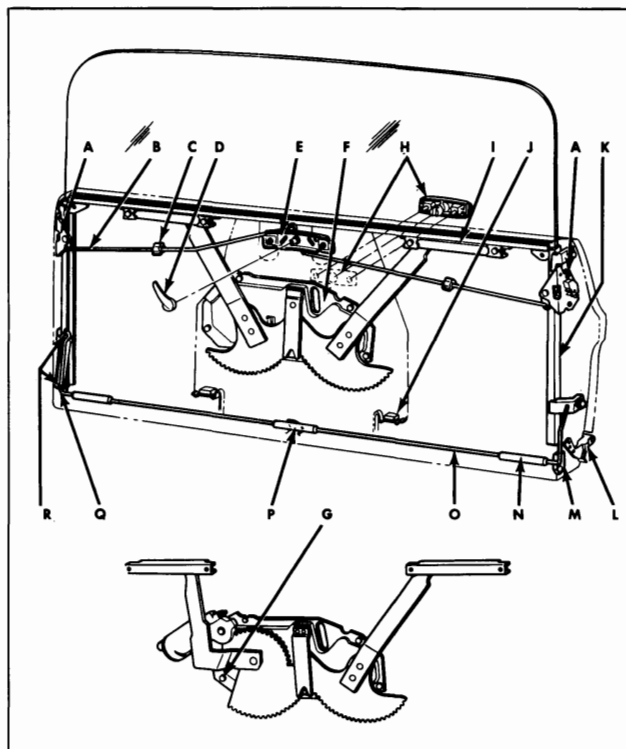
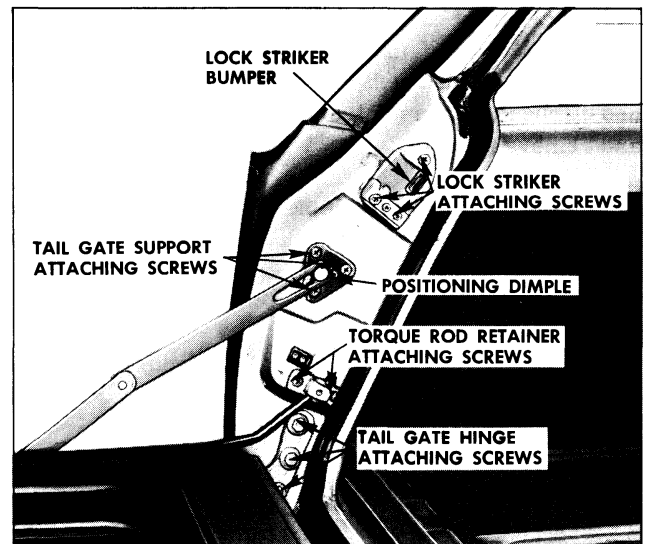
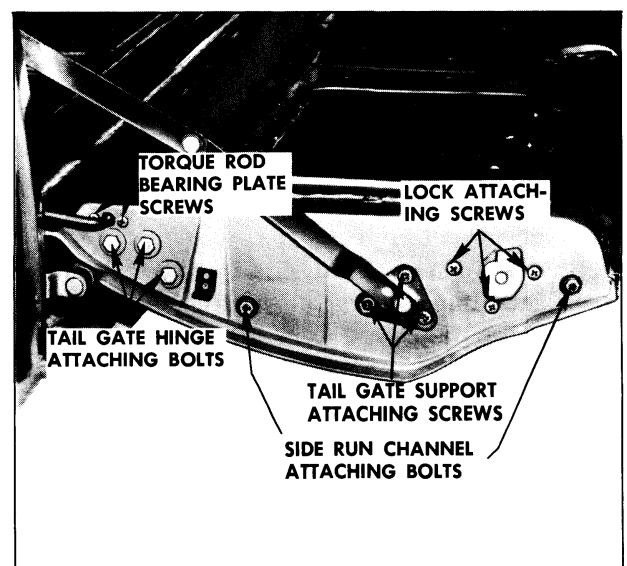

Fig. 14-15 Tail Gate Hardware
Fig. 14-17 Tail Gate Attaching Parts
Fig. 14-18 Tail Gate Attaching Parts
Figure 14-15 is a phantom view that identifies and shows the relationship of major components of the tail gate.
1. Open tail gate. With gate in approximately a vertical position to relieve tension from torque rod, remove torque rod retainer attaching screws on rear body lock pillar (Fig. 14-17).
2. With aid of a helper, remove tail gate support attaching screws (Fig. 14-18) and fold supports against rear body pillar.
3. Remove tail gate hinge attaching bolts at body pillar (Fig. 14-17) and remove tail gate from body.
To adjust the tail gate up or down or in or out in the body opening, loosen hinge attaching bolts at tail gate (Fig. 14-18); adjust tail gate as required and tighten hinge attaching bolts.
3. Remove hinge attaching bolts from tail gate (Fig. 14-18) and from body pillar (Fig. 14-17) and remove hinge from tail gate.
2. With tail gate in approximately a vertical position to relieve tension from torque rod, remove torque rod retainer attaching screws on rear body left lock pillar (Fig. 14-17).
3. Loosen torque rod bearing plate attaching screws (Fig. 14-18). Disengage torque rod from retainer at right side of tail gate and retainer in bottom of tail gate (Fig. 14-15).
2. Remove support plate attaching screws from both gate and rear body pillar (Fig. 14-18) and (Fig. 14-17) and remove tail gate supports.
3. To install, reverse removal procedure. Install support plate to body pillar with positioning dimple towards front of body (Fig. 14-17).
To adjust the window forward or rearward for proper alignment with upper glass run channels on the body, or to eliminate a binding condition of the window in the glass run side channels, loosen the channel attaching bolts (Fig. 14-18). Loosen the attaching bolts, adjust the run channel forward or rearward as desired, and retighten the attaching bolt.
2. Mark location of side run channel attaching screws (Fig. 14-18) to facilitate installation in same position; then remove attaching screws.